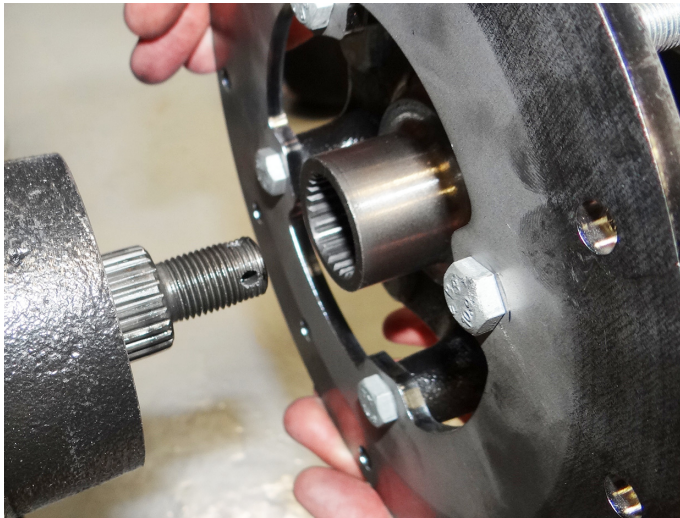

Fig. 4 Remove the Hub
5. Tap the hub with a plastic hammer while applying outward pressure until the hub slides off the splines of the axle (Ref. Fig. 4).